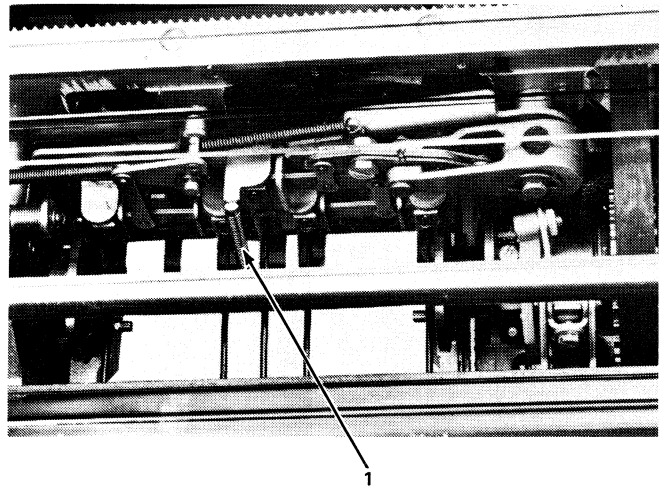

Figure 4-18. Selector Bail Removal (Top of Printer)
1. Remove the positive bail spring (No. 1, Figure 4-18).